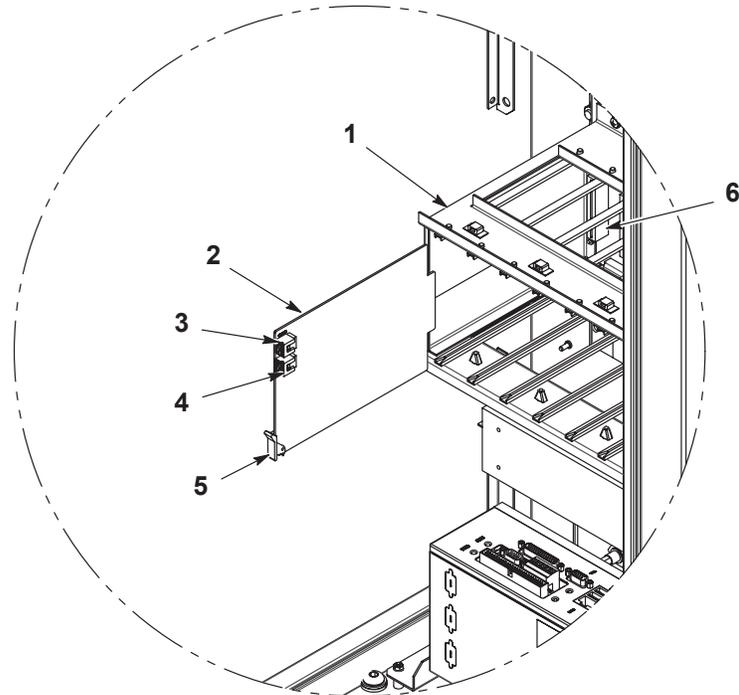

Figure 6-1 Spray Gun Control Card Replacement
See Figure 6-1. Spray gun control cards (2) are installed in the card cage from left to right. Each card controls two spray guns: the bottom receptacle is the odd spray gun number; the top receptacle is the even spray gun number.